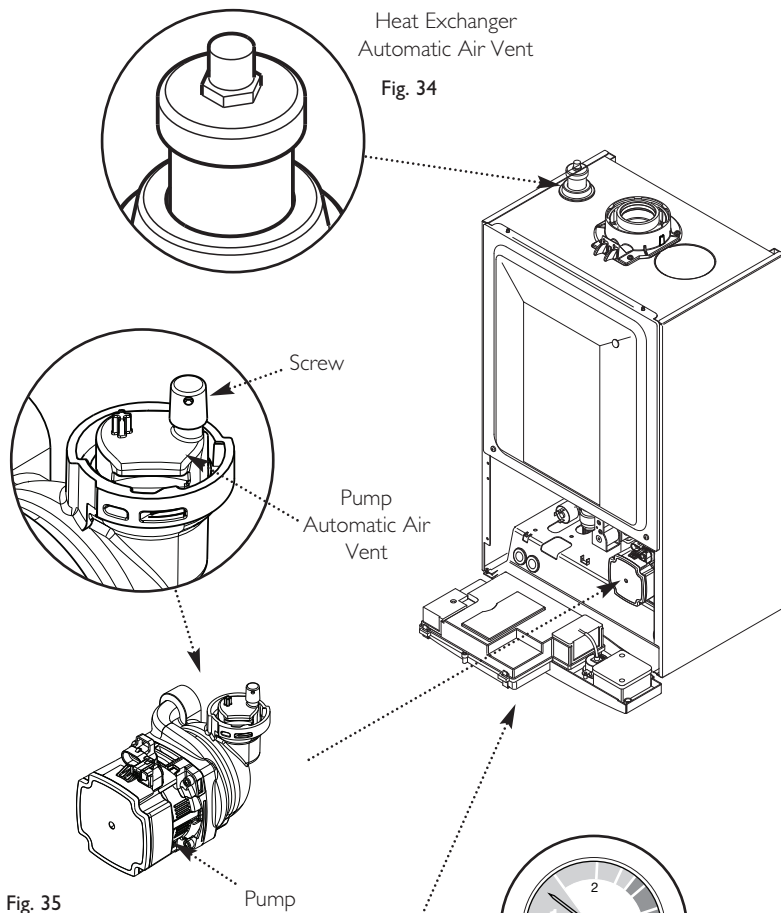

Fig. 35
6. Open the screw on the automatic air vent on the pump body (Fig. 35).